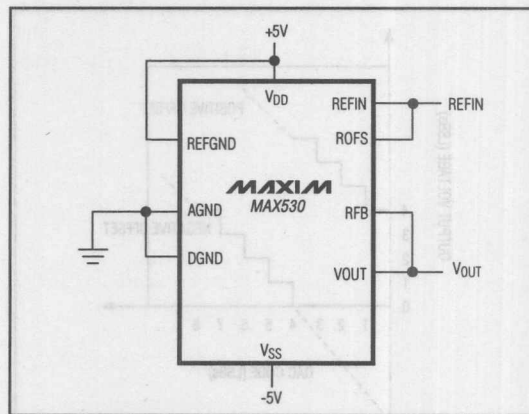

Figure 12. Four-Quadrant Multiplying Circuit
The MAX530 can be used as a four-quadrant multiplier by connecting ROFS to REFIN, using (1) an offset dual or twos-complement digital code, (2) bipolar power supplies, and (3) a bipolar analog input at REFIN within the range $V_{SS} + 2V$ to $V_{DD} - 2V$, as shown in Figure 12.